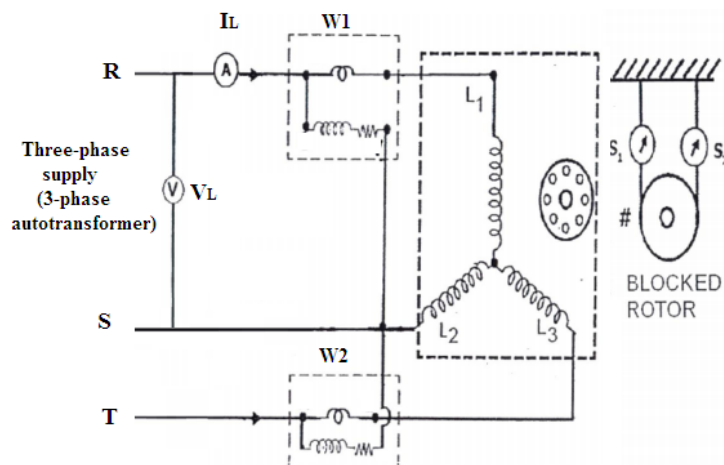

Fig. 2: Schematic diagram for Blocked rotor test on 3-Phase induction motor
1. Connect the circuit as shown in the connection diagram in Figure 2.